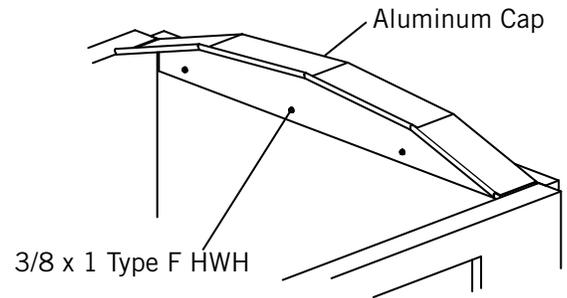

Figure 15-1
- 1) **Figure 15-1.** Position aluminum rear cap centered on inside of tailgate with the bottom of the trough even with the side walls.